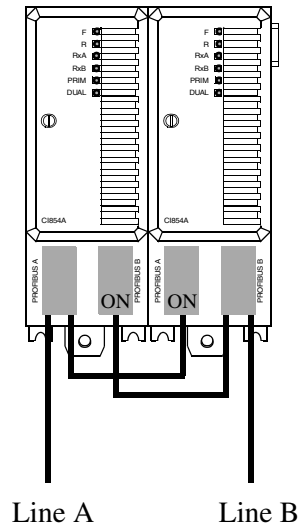

Figure 44. Connection of Redundant PROFIBUS DP (CI854A/CI854B)
6. If the CI854A/CI854B is installed in a redundant configuration connect the PROFIBUS DP cable to primary and backup module. Do it like described in Figure 44 on page 126. Switch the termination ON for the interface on primary or backup module that is at the end of the line.